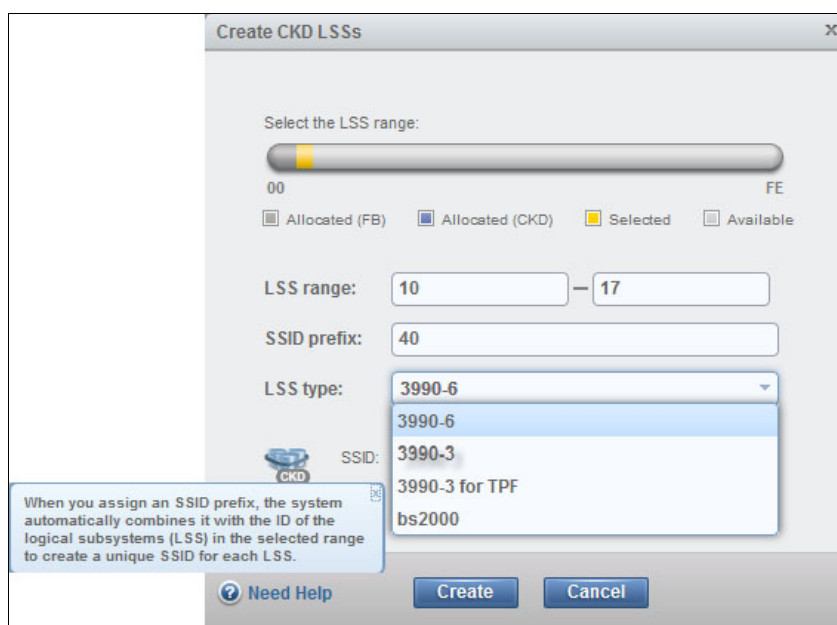

Figure 11-74 Defining CKD LSSs
- The Create CKD LSSs page opens, as shown in Figure 11-74. Complete the required information. After you enter the values for the LSS range, subsystem identifier (SSID) prefix, and LSS type, click **Create**. The Need Help icon displays information about how the unique SSID for each LSS is determined based on the SSID prefix that is provided.